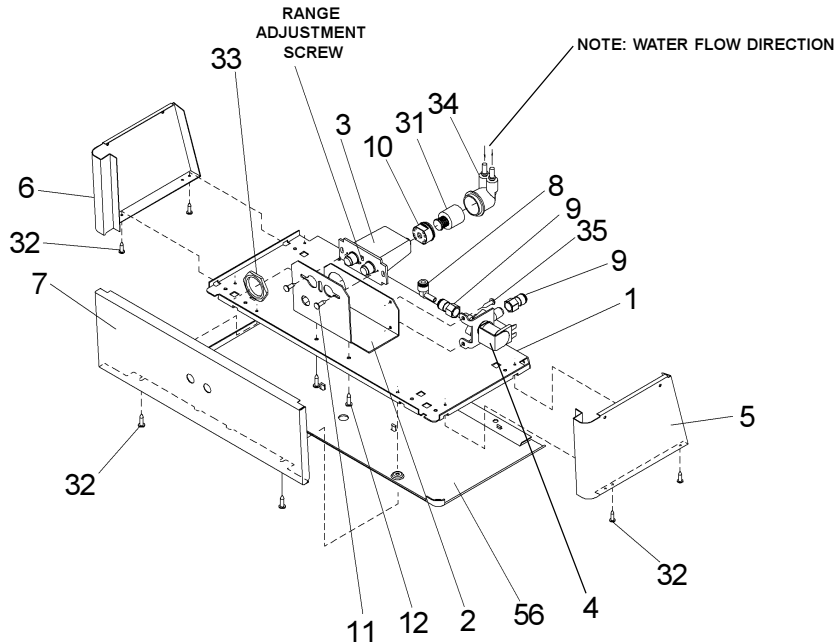

FIG. 3
- Using a small tip screwdriver, rotate range adjustment screw clockwise to increase range and counter-clockwise to decrease range. (See Fig. 3).
- Stream height is factory set at 45-50 PSI. If supply pressure varies greatly from this, readjust stream height to approximately 1-1/2" (38mm) above the bubbler guard by turning adjustment screw, accessible by removing front panel, Item No.7 (see Fig.3 & 5).
- Replace the front panel and secure by retightening four (4) screws.